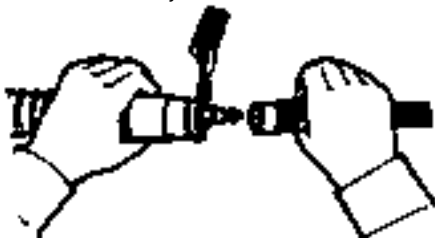

Figure 7
2. With air flowing, connect breathing tube assembly to air supply hose (see Figure 7). Connect quick-disconnect fitting on breathing tube assembly to quick-disconnect coupler on air supply hose. Once fitting is secured, release coupling sleeve to lock fittings together. Pull on both hoses to make sure they are attached securely.